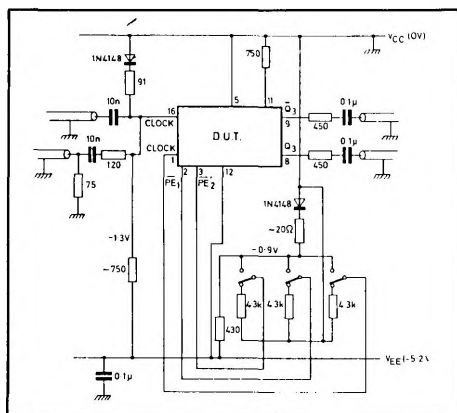

Fig. 5 Test circuit for dynamic measurements
- The devices are dynamically tested using the circuit shown in Fig. 5. The bias chain has the same temperature coefficient as ECL III and ECL 10K, and therefore tracks the input reference throughout the temperature range. The devices are tested with input amplitudes of 400 and 800 mV p-p about that reference, over the full temperature range.